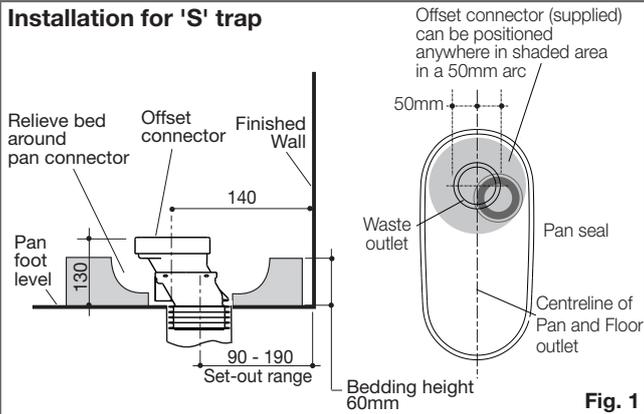
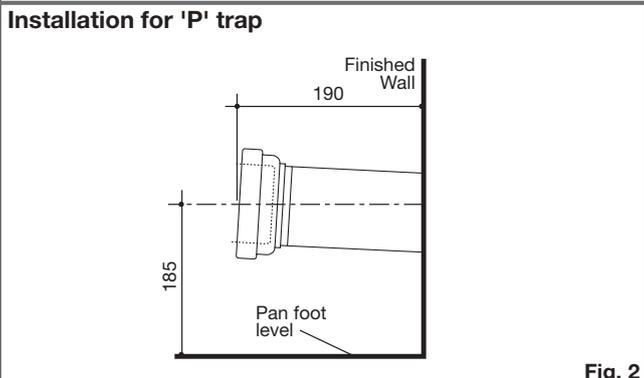

Fig. 1
Fig. 2
The Luna 'S' trap pan installation is detailed in **Fig. 1** and 'P' trap pan in **Fig. 2**. The recommended set-out for 'S' trap installations is 140mm from the finished wall. The 50mm offset connector (supplied) is available to achieve a set out of 140mm, where the soil pipe is between 90mm min. and 190mm max. from the finished wall. The connector also allows for sideways positional movement, as detailed in **Fig. 1**.
- 3- Prepare bedding sand cement mixture 3:1 to depth of 60mm as detailed in **Fig. 1**.